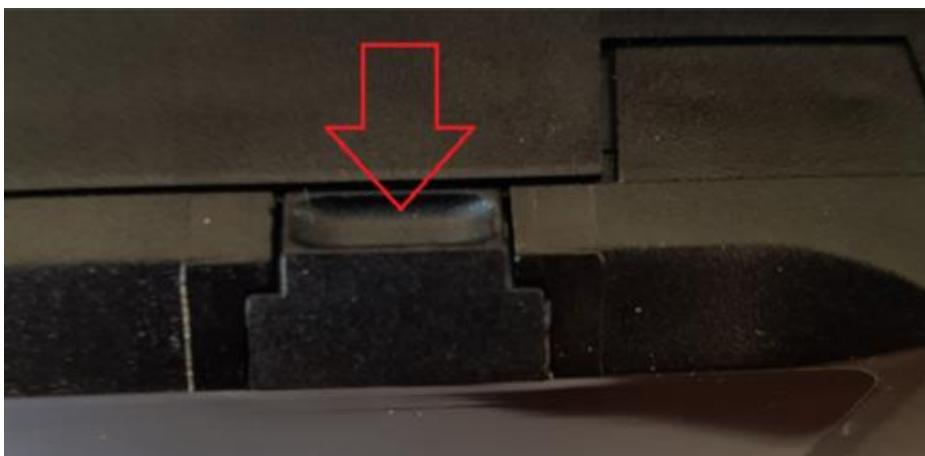

Figure 1: Open SIM card door
1. Hold the unit with the label facing downwards (MiX Telematics logo facing upwards). Slide open the SIM cover as illustrated in Figure 1 below.